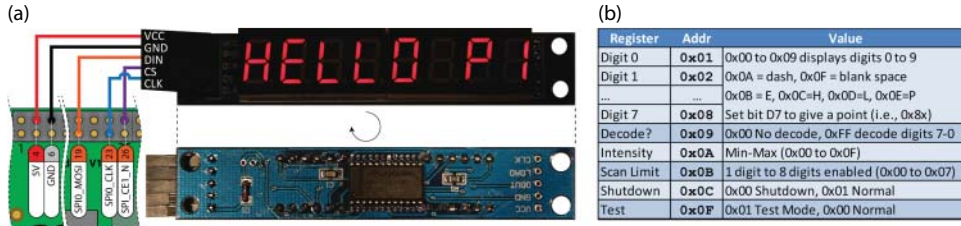

Figure 10-16: (a) The MAX7219 8-digit 7-segment display module, and (b) a summary register table for the MAX7219
The Maxim Integrated MAX7219 is a serially interfaced 8-digit LED display driver that is widely available and built in to very low-cost multi-seven-segment display modules. The module in Figure 10-16(a) (\$2–\$3) is a 5 V 8-digit red LED display that contains the MAX7219 IC, which can be interfaced using SPI. The datasheet for the IC is available at tiny.cc/erpi1008.
The module can be connected to the RPi using its SPI bus, which in this case is connected to the SPI_CE1_N enable pin, as illustrated in Figure 10-16(a). This
In decode mode the module can display eight digits consisting of the numeric values 0–9 (with a point), the letters *H*, *E*, *L*, *P*, a space, and a dash. The decode mode can also be disabled, permitting each of the seven segments to be controlled directly. For example, the following steps that use the summary list of registers in Figure 10-16(b) can be used to test that the module is configured correctly by sending pairs of bytes to the device—the register address and data value to write:
4. Display the words “Hello Pi” (as in Figure 10-16(a)):